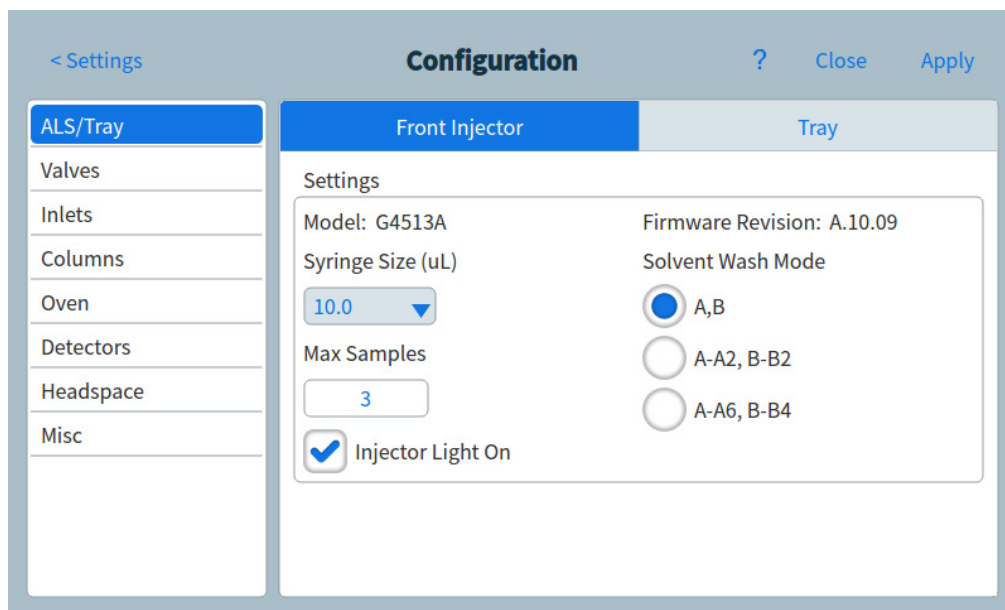

Figure 56 Configuration page
- 2 Press **Configuration**. The Configuration page appears. See Figure 56.
- 2 Press **Configuration**. The Configuration page appears. See Figure 56 on page 132.